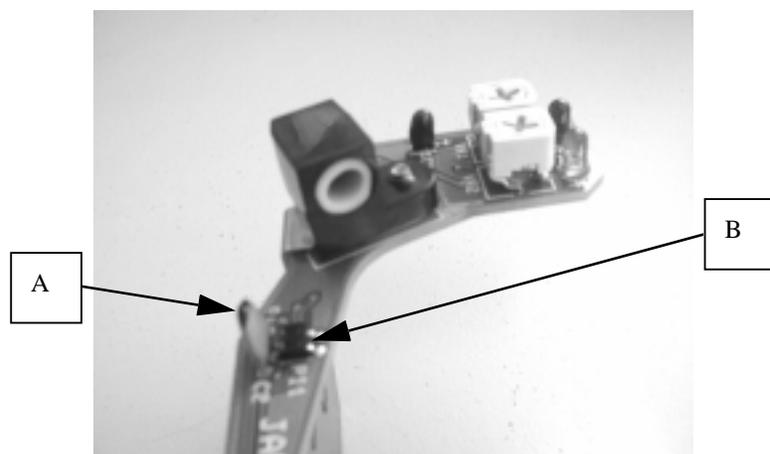

FIGURE 12-1
II. In case of condenser C2(A) is leaning to dust sensor(B) side, lean it to opposite side. Fig.12-1.